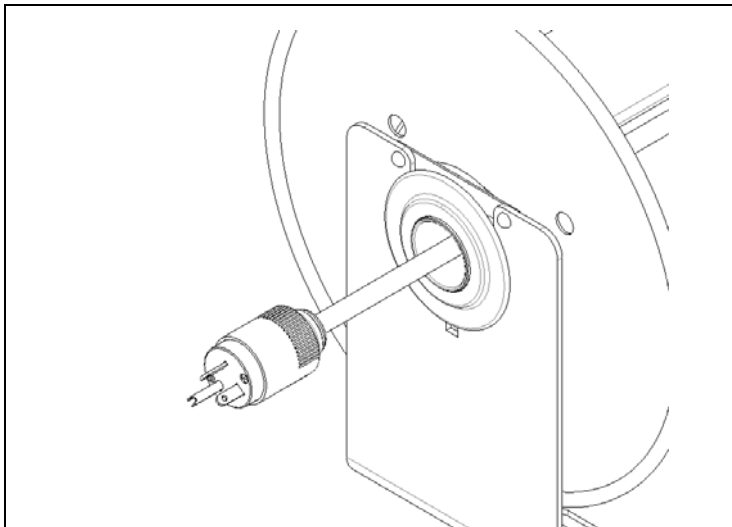

FIGURE 1.0
- Select a length for the amount of cable/hose that you wish to leave as the connector. This amount will not be wound onto the drum but will exit out of the axle and must be able to be pushed inside of the drum. Any amount of cable/hose not able to be pushed into the drum may lash around when winding/unwinding the reel. (See Fig 1.0)